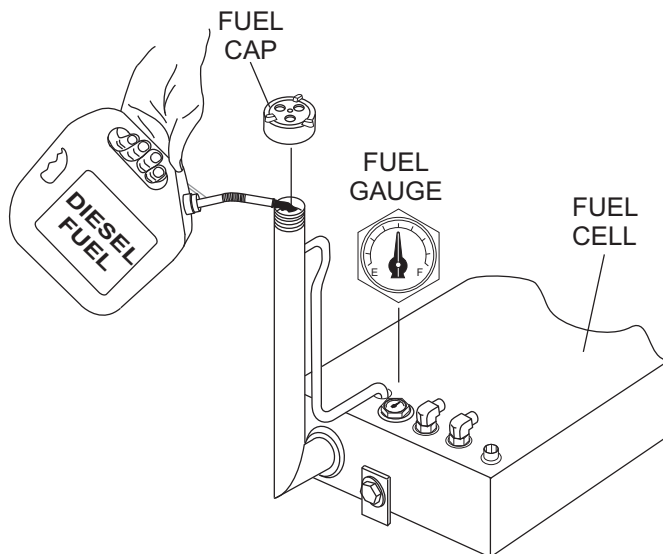

Figure 10. Refueling (Fuel Cell)
1. Determine if engine fuel is low by reading fuel gauge (Figure 10) located either front or rear of the trailer depending on type of trailer. If the fuel level is low, remove the fuel cap from the trailer filler neck and fill with recommended type diesel fuel. **DO NOT** fill the tank beyond capacity.